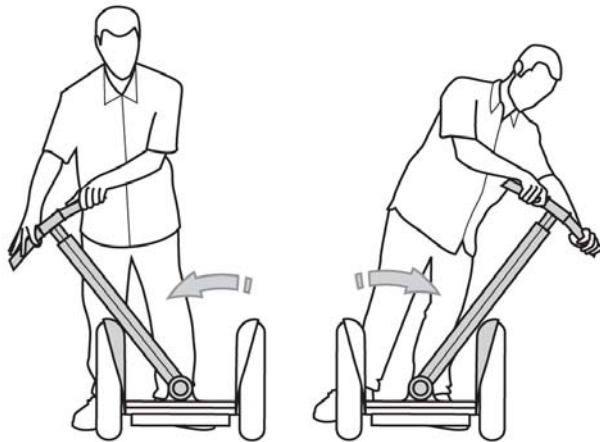

Figure 1-4: Releasing LeanSteer Frame from Pivot Base Assembly
3. Move LeanSteer frame all the way to the left and right until loose. You might hear and feel a click when wedge clamp assembly releases from pivot assembly. See Figure 1-4.